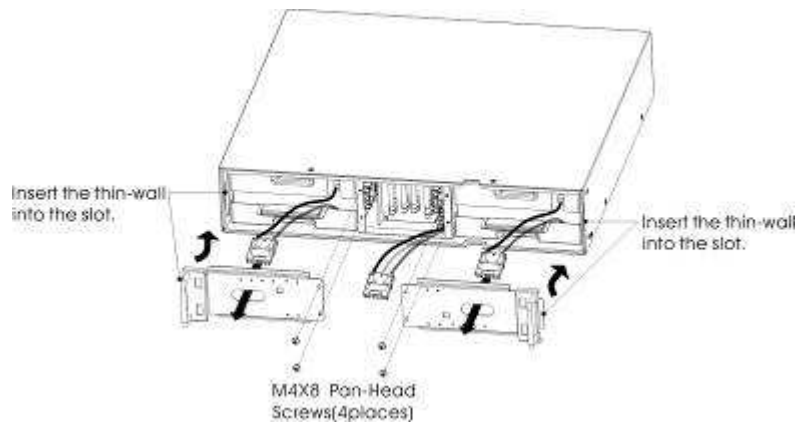

Fig.28 Installation for battery pack
5. Hold the middle of the new battery pack, insert it. Once install the new battery pack, make sure it is completely inserted into the chassis as fig 28 shown.